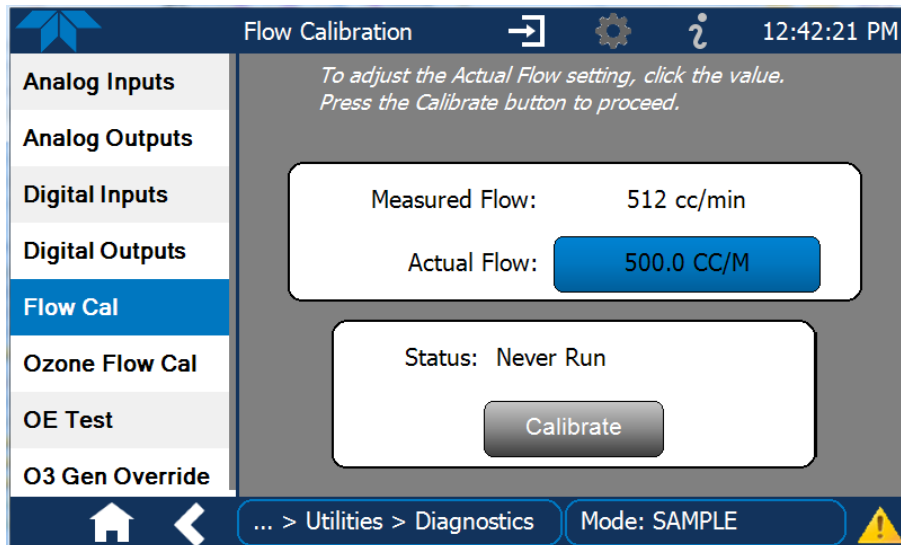

Figure 5-13. Flow Calibration Menu
1. In the Utilities>Diagnostics>Flow Cal or Ozone Flow Cal menu (Figure 5-13), as applicable, edit the Actual Flow value by inputting the reading from the external flow meter obtained in the corresponding check of the flow to be calibrated.